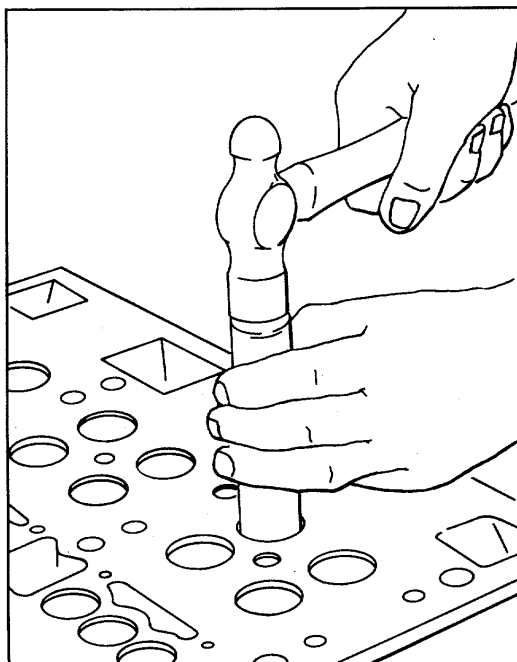

Figure 10. Installing Valve Seat Insert
5. Drive the insert in place with installer J 6976 (two-valve head) or J 7790 (four-valve head) as shown in Fig. 10 until it seats solidly in the cylinder head.